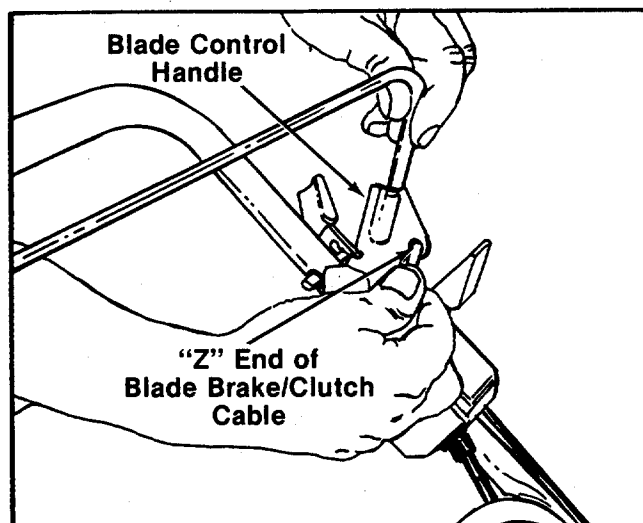

FIGURE 5.
8. Hook the "Z" end of the blade brake/clutch cable into the hole in the blade brake/clutch control handle. See figure 5. If additional slack is needed in order to hook the cable into the handle, proceed as follows.